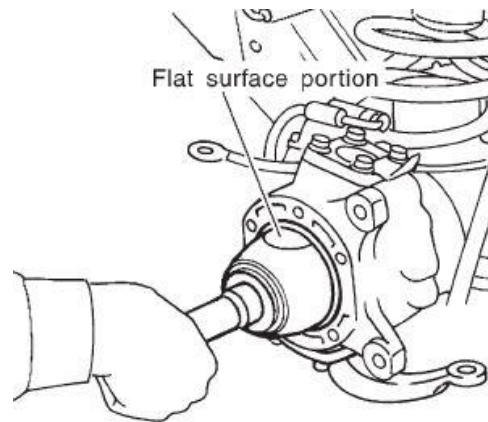

Fig 7
18. Repack the cleaned CV joint of the driveshaft with a CV joint-specific grease and reinstall the driveshaft into the axle; ensuring the flat of the CV joint is facing upwards during insertion. (Refer to fig 7). Fill the hub cavity around the CV joint to approx.  $\frac{3}{4}$  capacity with a CV joint-specific grease. Also install the driveshaft thrust washer.